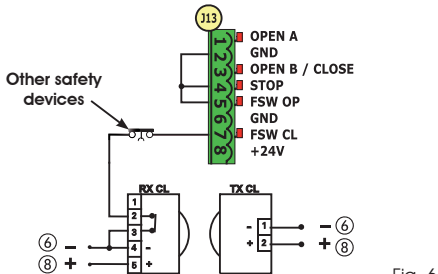

Fig. 6
- ☞ If the FAIL-SAFE safety device is used, connect the power supply of the transmitters to OUT after setting it as appropriate (see 2nd level programming and Fig. 6).
- ☞ If the FAIL-SAFE safety device is used, even the unused safety inputs must be connected via a shunt lead to the negative of OUT (see Fig. 6).